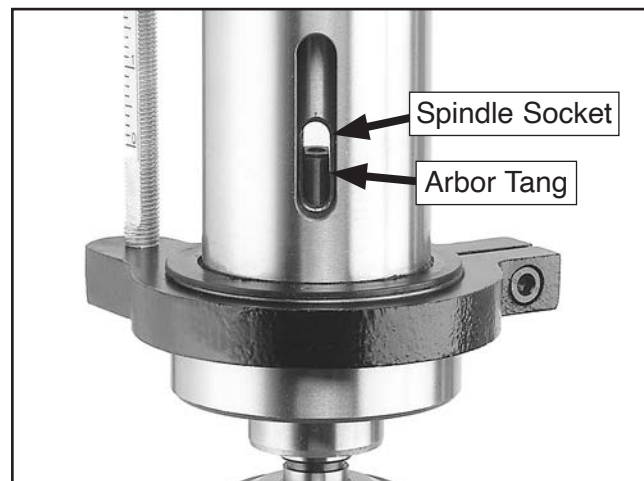

Figure 27. Example of arbor tang aligned with spindle socket.
6. Slide arbor into spindle socket while slowly rotating chuck to line up tang on arbor with slot in socket (see **Figure 27**).